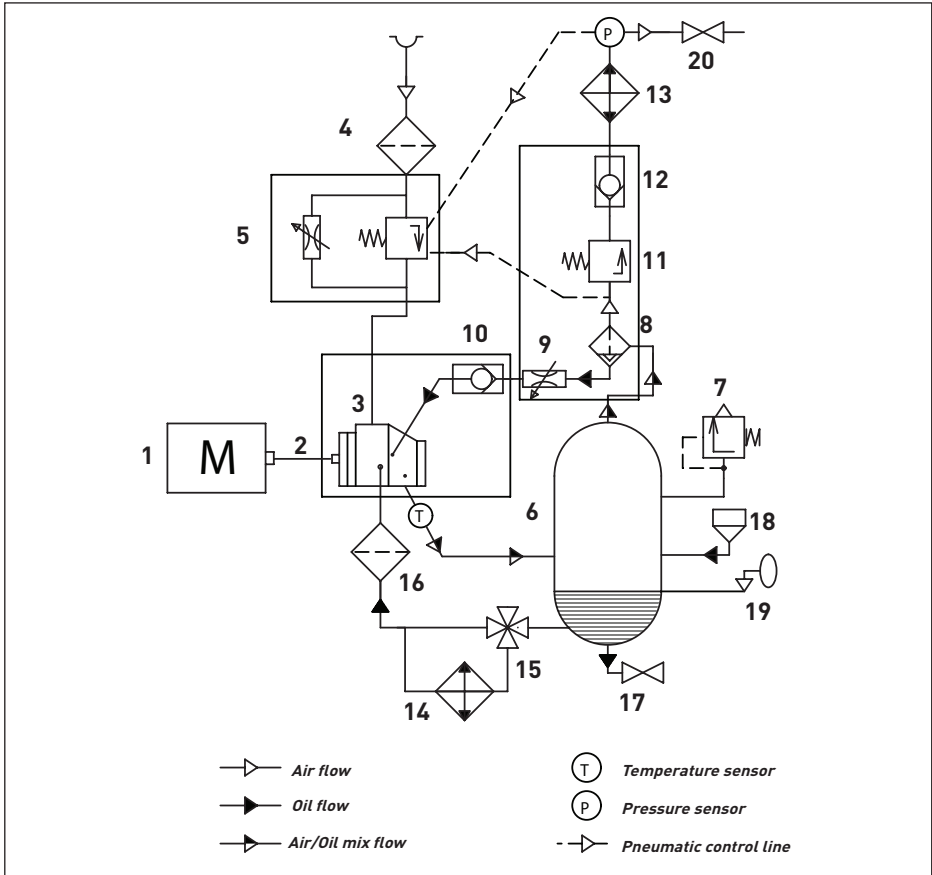

Fig. 2.3 Function diagram DV11 – DV22
2.4 Functional description (see Fig. 2.3)